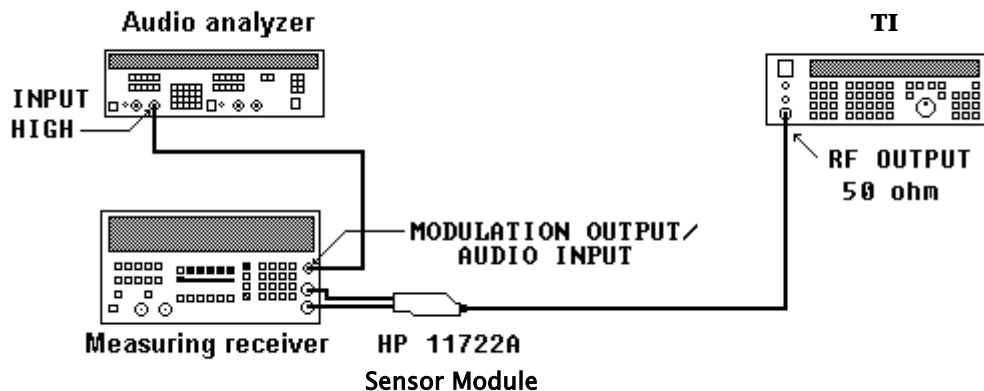

Figure 4. FM modulation hookup.
- (1) Connect equipment as shown in figure 4.